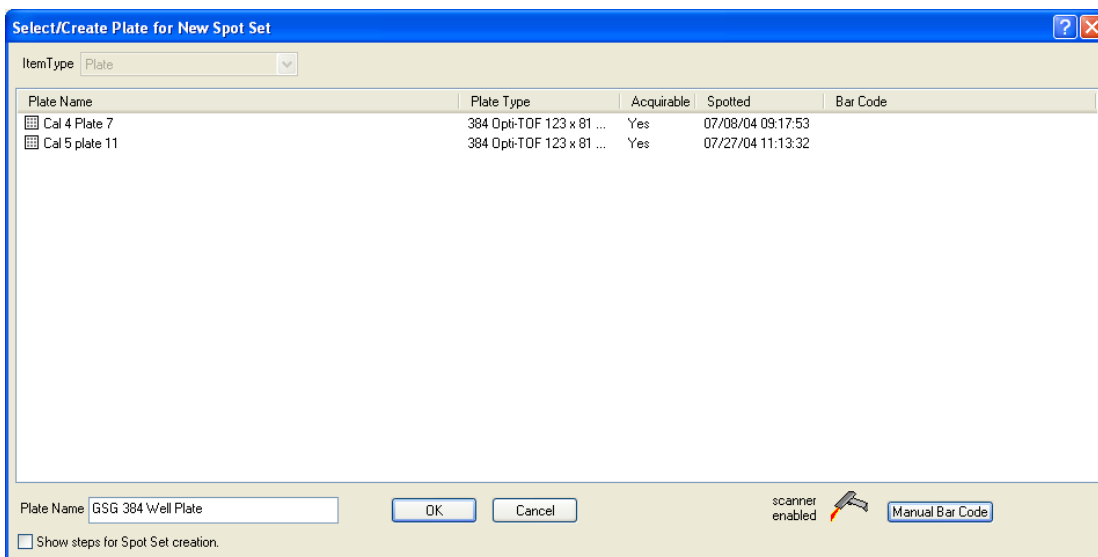

Figure 3-3 Select/Create Plate for New Spot Set Dialog Box
4. Click **Create**. The Select/Create Plate for New Spot Set dialog box opens (Figure 3-3).